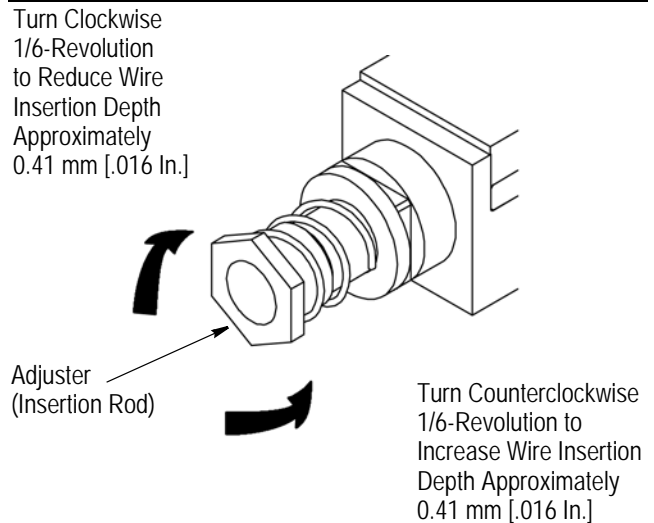

Figure 3
• *If the wire is too deep in the contact slot:* Remove the head and turn the adjuster **CLOCKWISE**. Refer to Figure 3. A 1/6-revolution adjustment will reduce the wire insertion depth by approximately 0.41 mm [.016 in.]. Repeat steps 2, 3, and 4 of Paragraph 3.1 until the desired insertion depth is attained.
• *If wire is not deep enough in contact slot:* Remove the head and turn the adjuster **COUNTER-CLOCKWISE**. Refer to Figure 3. A 1/6-revolution adjustment will increase the wire insertion depth by approximately 0.41 mm [.016 in.]. Repeat Steps 2, 3, and 4 of Paragraph 3.1 until the desired insertion depth is attained.